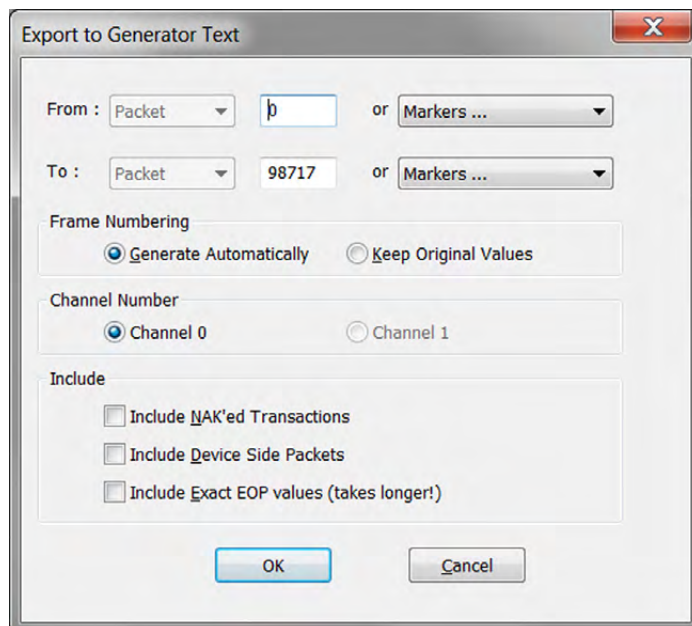

Figure 11.11: Export to Generator Text Window
4. Select **Packets to Host Traffic Generator Text File** from the **Export** drop-down menu. You see the **Export to Generator Text** dialog (Figure 11.11 on page 407).